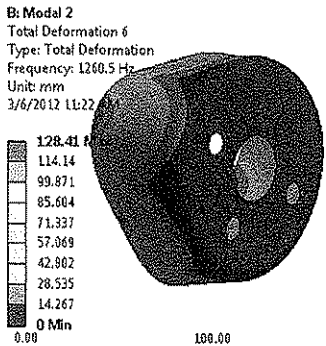

Figure 10-55 Sixth mode shape when **Total Deformation 6** is selected under the **Solution** node
14. Similarly, select **Total Deformation 6** under the **Solution** node in the Tree Outline; the corresponding mode shape is displayed in the Graphics screen, refer to Figure 10-55.